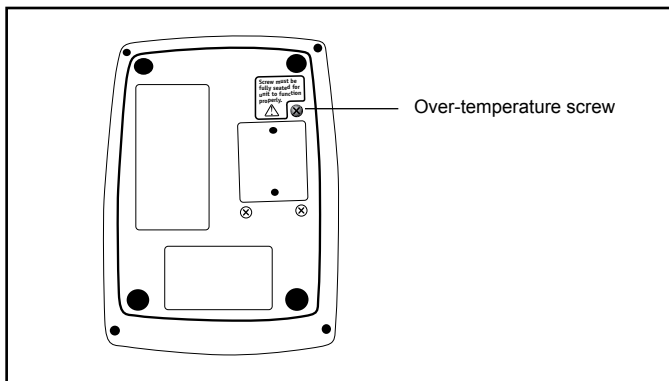

Fig. 3: Ranger Irrigation over-temperature screw
3. Slowly loosen the over-temperature screw on the bottom of the Ranger Irrigation unit (see Figure 3). Listen for a slight click as the microswitch opens. **Stop turning the over-temperature screw as soon as you hear the click.** This unit is now in over-temperature test mode, and the temperature output of the unit should begin to rise. When the display reads 48°C, verify that an audible alarm sounds, the alarm light illuminates, and the display alternately flashes “HI” and the plate temperature.